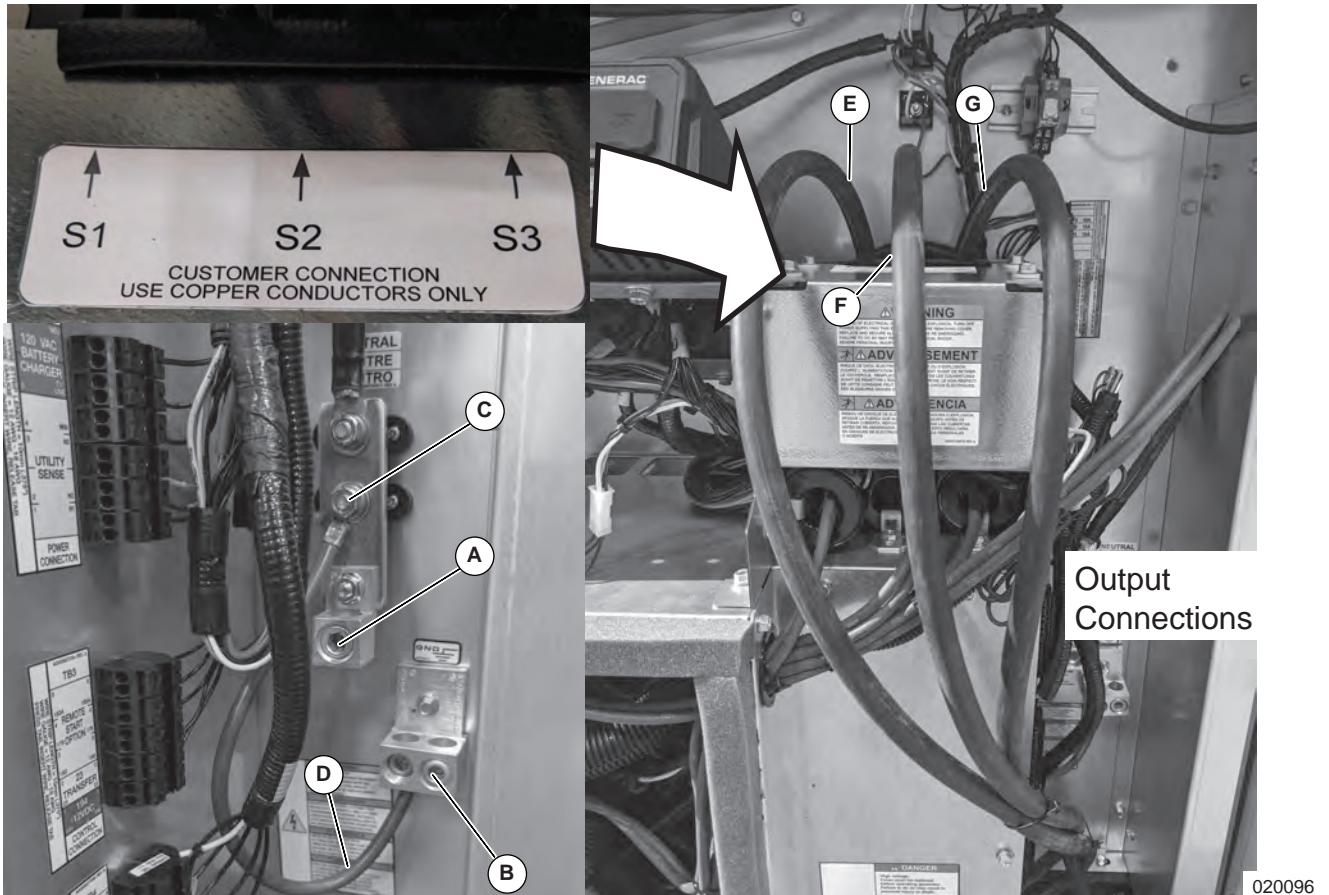

Figure 5-2. High Voltage 3-phase Connections Without Circuit Breaker
1. See Figure 5-2. Connect load wiring to S1, S2, and S3.
2. See Figure 5-2. Route copper load wires toward end panel as shown. Do not route wires to the side. Load wires must remain separated from factory wiring as shown.
3. Connect generator neutral to neutral terminal bar (A).
4. Connect equipment ground to equipment ground lug (B).
5. Tighten 3-phase (2 position) lug (B) to 275 in-lb (31.07 Nm).
6. Tighten 3-phase (1 position) lug (A) to 375 in-lb (42.37 Nm).